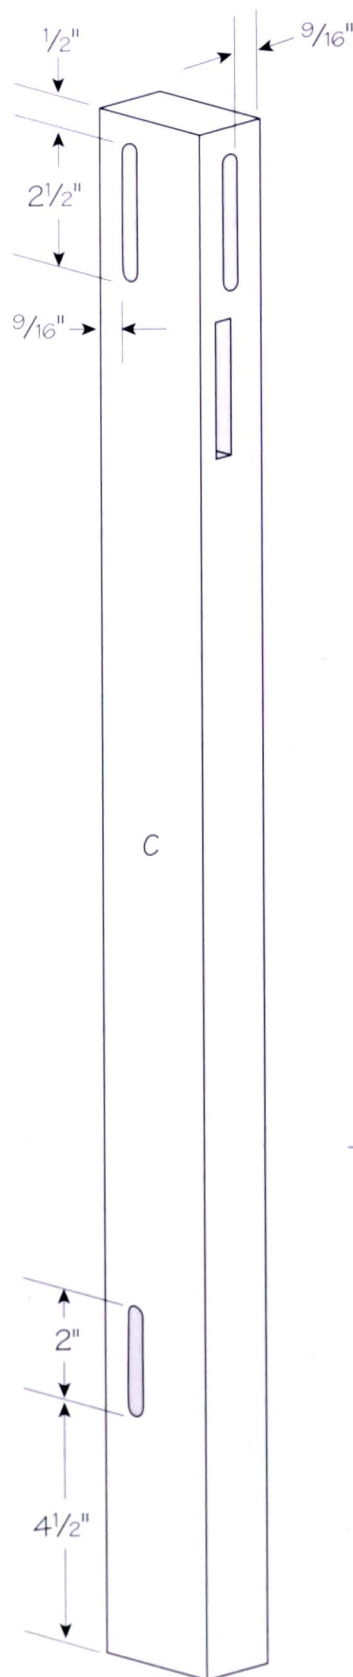

Figure 4
8. Cut mortises in the legs (C) for the aprons (E) and stretchers (G). The mortises at the tops of the legs are $2\frac{1}{2}$ " high and begin $\frac{1}{2}$ " from the tops of the legs. They are $\frac{3}{8}$ " wide, beginning $\frac{9}{16}$ " from the outside faces of the legs. The mortises overlap inside the legs, 2" long into the narrow face and 1" long into the wide face. The mortises for the stretchers (G) are 2" high, $\frac{3}{8}$ " wide, and $1\frac{1}{4}$ " deep, cut from $4\frac{1}{2}$ " to $6\frac{1}{2}$ " from the bottoms of the legs on the inside wide faces. Refer to figure 4.